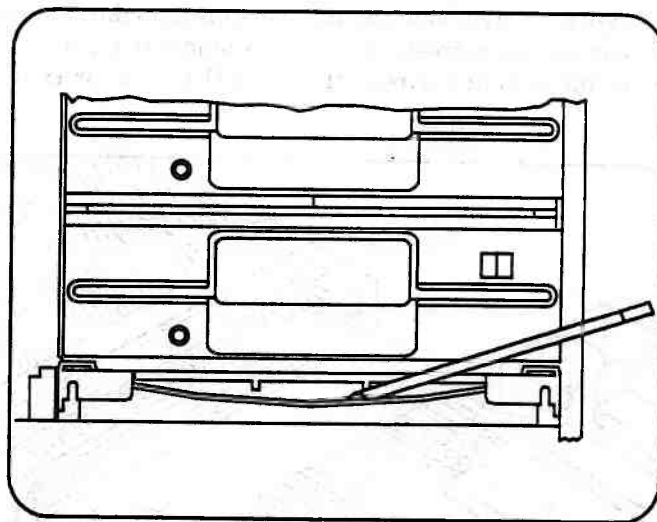

Figure 5-58. Unlocking Drive Assembly
5. Using a screwdriver, push down the metal bar below the drive assembly and slide the assembly forward to permit access to the signal and power cables (Figure 5-58).